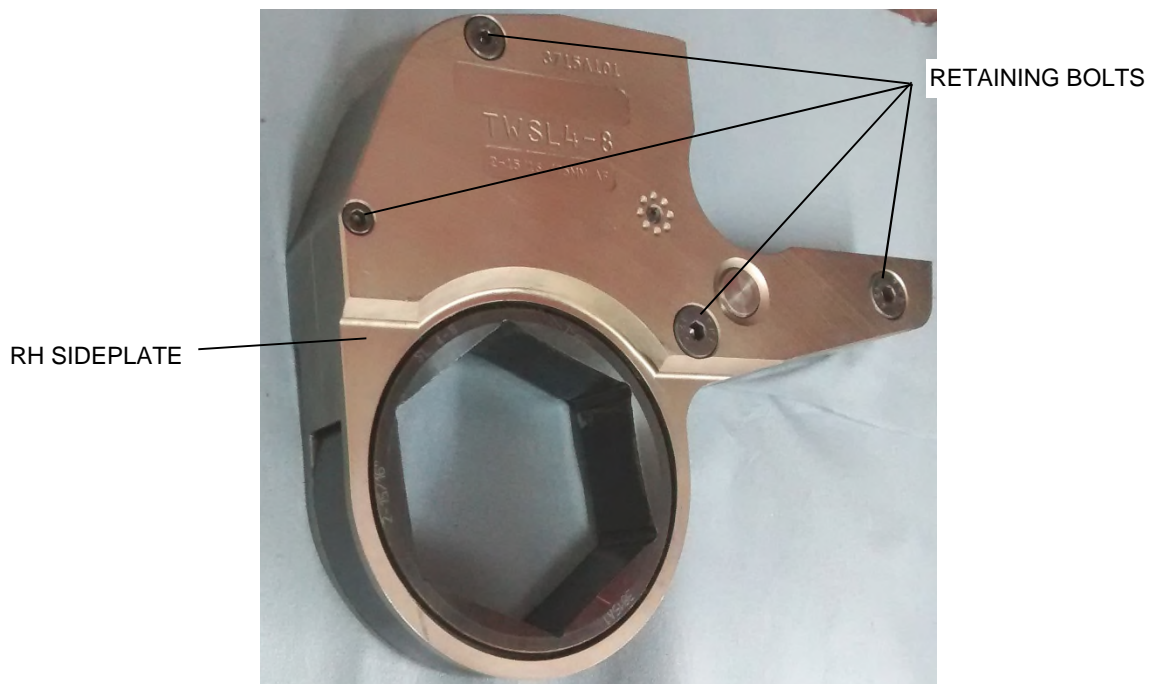

Figure 8. Right Hand Sideplate Removal
2. See figure 8. Unscrew the sideplate retaining bolts and remove the right hand sideplate.